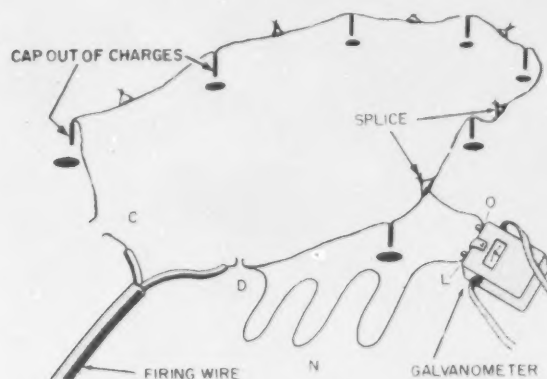

Figure 5-20.—Locating breaks in the firing circuit.
Here is a way (illustrated in fig. 5-20) in which a break in the firing circuit may be located if the circuit test from the reel end indicates an open circuit, or if you have a misfire.
2. Connect the two spliced wires at the far end of the firing cable (C and D in fig. 5-20)